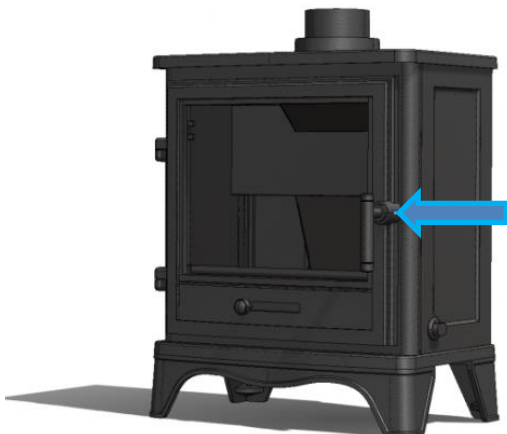
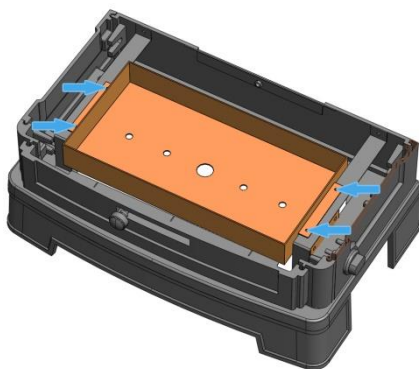

Fig.1 Door screw
Fig.2 Fitting the burner
Slacken the screw securing the door shown in Fig.1 and open the door. Position the burner tray into the stove, ensuring that the pilot is located to the rear. There are 4 screws already fitted to the burner tray brackets inside the stove. Remove these before positioning the burner tray and reuse them to secure in place. See Fig.2.
4. Close the door and secure with the locking screw as shown in Fig. 1.